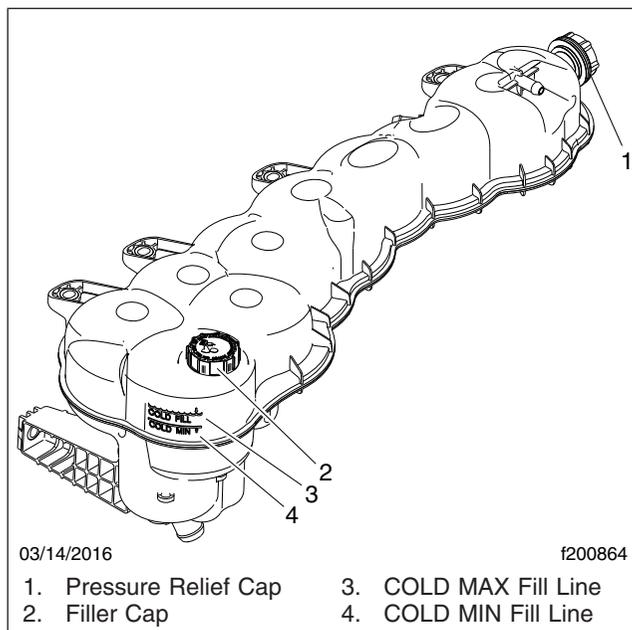

Fig. 25.6, Coolant Surge Tank
5. Check the engine coolant level in the radiator surge tank. See **Fig. 25.6**.